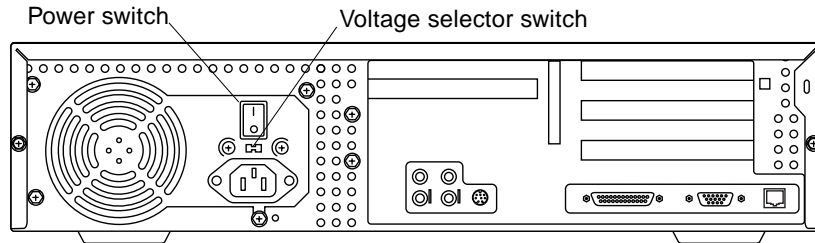

FIGURE 1-4 Ultra 5 System Power Switch
**3. Set the system power switch to the off position (FIGURE 1-4).**